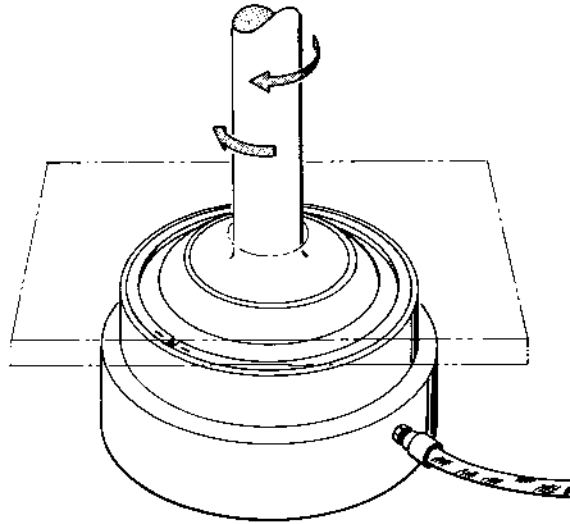

Figure 3. Main rotor swashplate bearing assembly
3. Mount assembly to permit hand rotation of inner race during regreasing. (See Figure 3.)